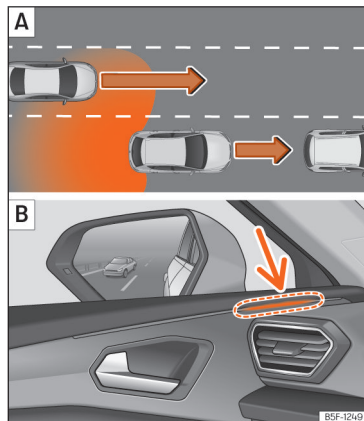
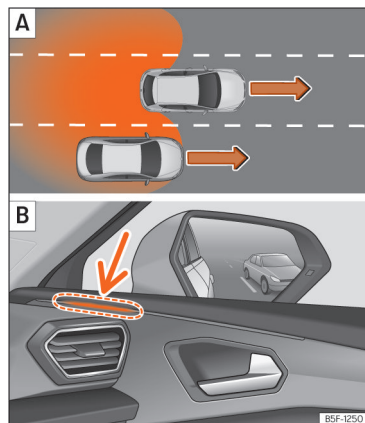

Fig. 144 Schematic diagram: **A**) Overtaking with traffic behind the vehicle. **B**) Side Assist indication on the left hand side.
Fig. 145 Schematic diagram: **A**) Overtaking in the central lane and then joining the right lane. **B**) Side Assist indication on the right hand side.
In the following situations, an indication will be displayed in the control lamp »» Fig. 144 **B** (arrow) or »» Fig. 145 **B** (arrow):
- When being overtaken by another vehicle »» Fig. 144 **A**.
- When passing another vehicle »» Fig. 145 **A** with a speed differential of approx. 10 km/h (6 mph). If the vehicle is passing at a considerably higher speed, no indication will be displayed.